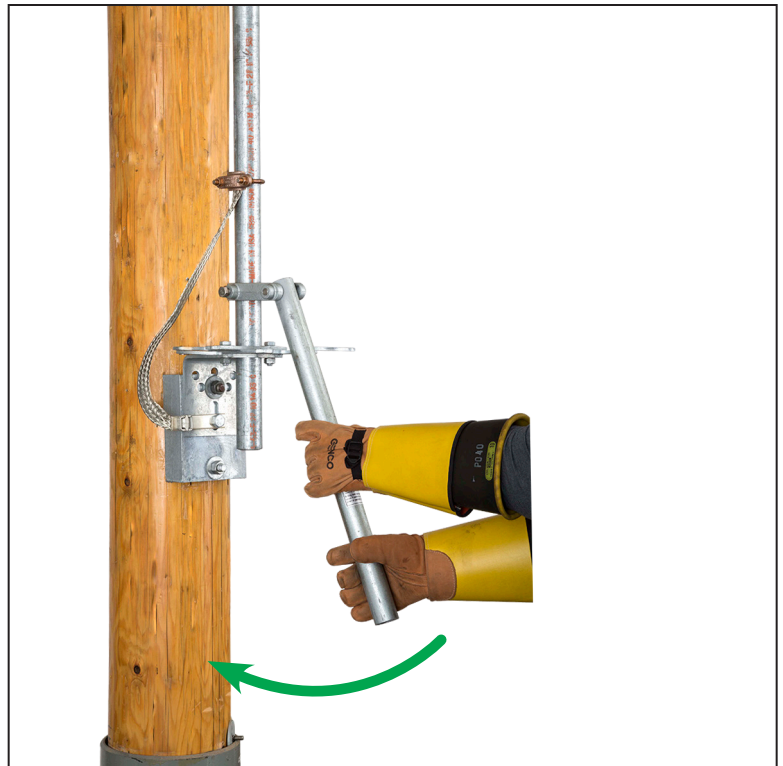

Figure 47. Swinging the operating handle.
- (c) Swing the handle *rapidly* to the fully open or fully closed position. See Figure 47.